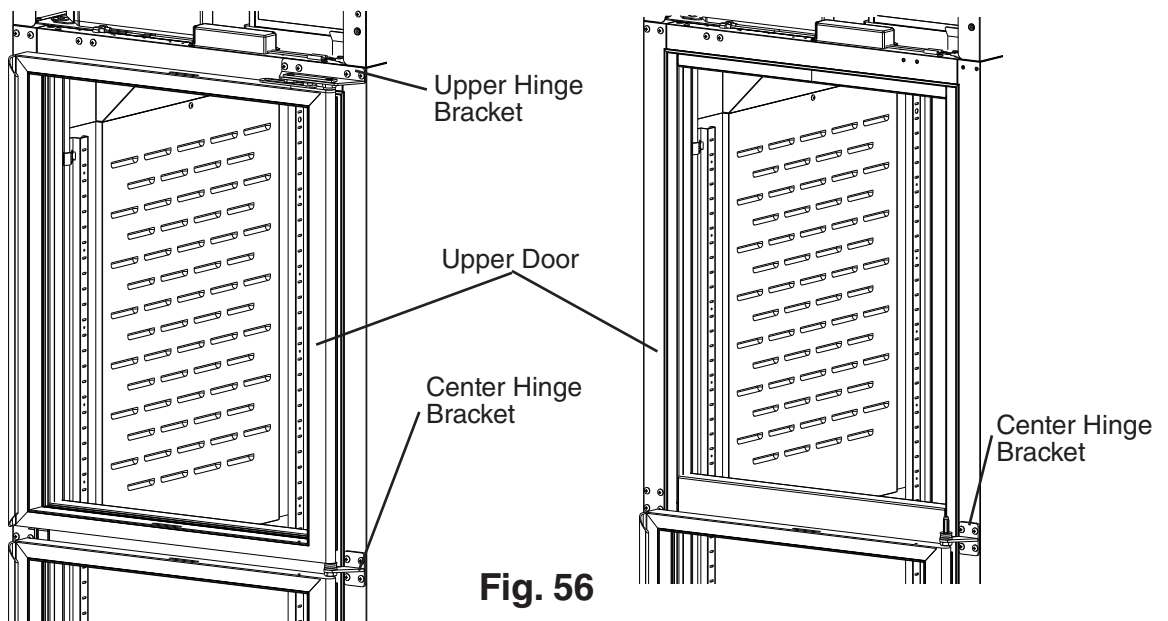

Fig. 56
8) Close the upper door, while maintaining a hold on the door, remove the upper hinge bracket, then lift the door off the center hinge bracket upper pin and set aside. See Fig. 56. Retain the upper door thrust washer and the center hinge bracket thrust washers and washer for opposite side hinge bracket installation. **NOTICE! Thrust washers must be in place to prevent wear and damage to the hinge brackets.**